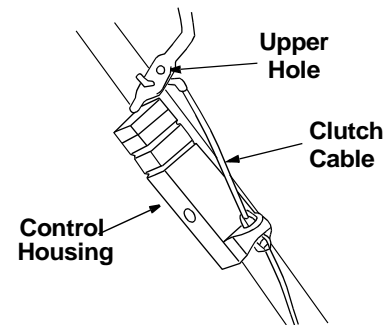

Figure 14
- The upper hole in the control handle provides adjustment for belt tension. To adjust, disconnect the "Z" end of control cable from the bottom hole in the control handle. See Figure 14. Hook the cable into the upper hole in control handle as shown here.